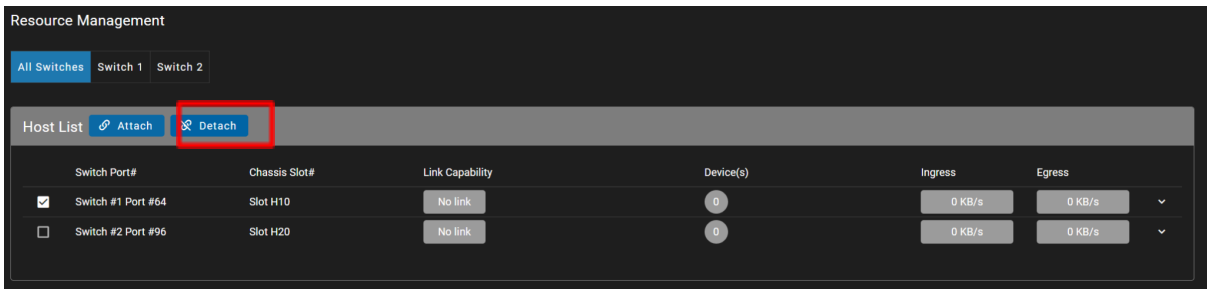

Figure 68. Accessing the GPU Allocation Page via the Attach Tab
C. Click the Attach tab to access the GPU allocation page (refer to Figure 68).